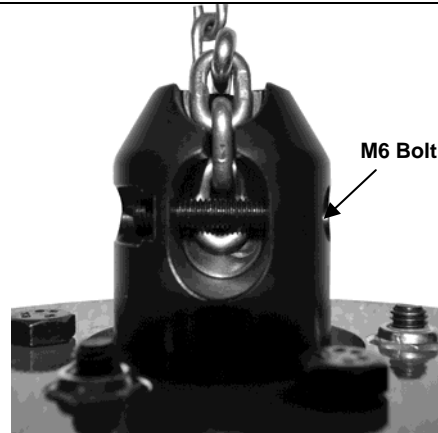

Figure 2-13
- 2) Insert M6 bolt thru chain keeper in front of chain link inside chain keeper. (Refer to Figure 2-13)